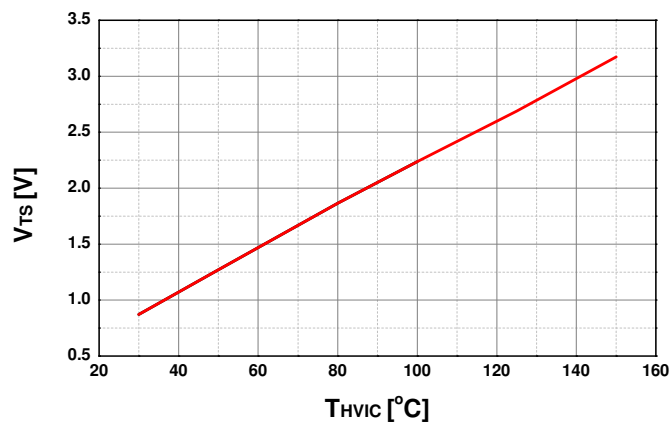

Figure 6. Temperature Profile of V_{Ts} (Typical)
- t_{ON} and t_{OFF} include the propagation delay of the internal drive IC. Listed values are measured at the laboratory test condition, and they can be different according to the field applications due to the effect of different printed circuit boards and wirings. Please see Figure 6 for the switching time definition with the switching test circuit of Figure 8.